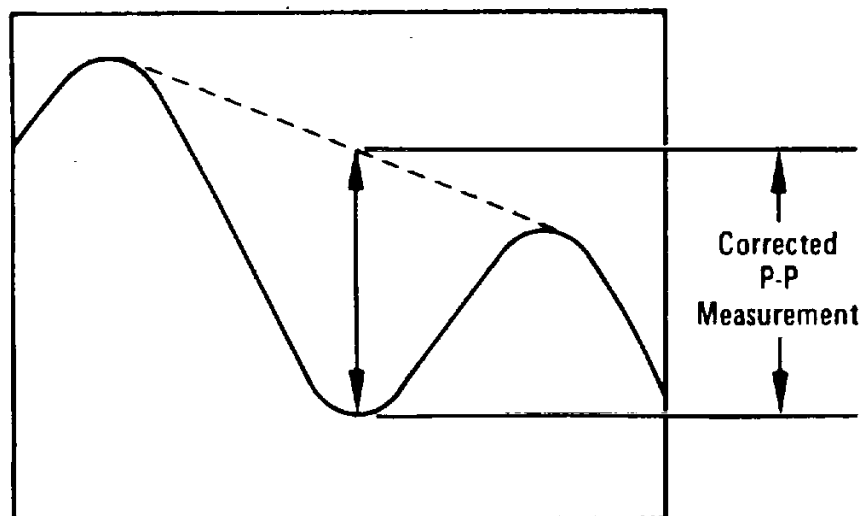
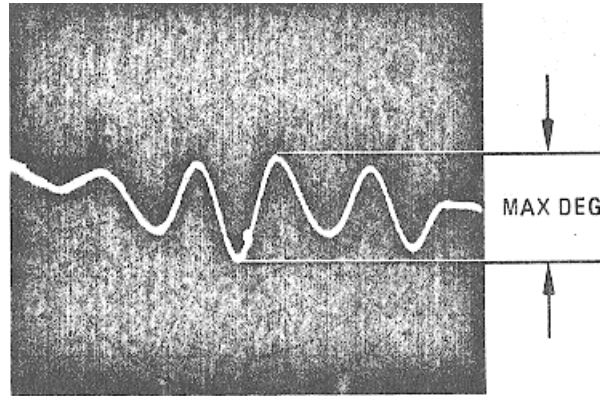

Figure 14. Slope Peak-To-Peak Measurement
Figure 15. TEST Port Open/Short Ratio Phase >2 MHz
If a peak-to-peak measurement is made in an area where there is some slope, a corrected reading can be obtained by connecting two adjacent upper peaks with a dotted line. Extend a vertical line up from the lower peak until it intersects the dotted line. This constructed vertical line is the averaged or corrected peak-to-peak measurement to be used (Figure 14). Avoid making peak-to-peak measurements at extreme slope changes.
- (5) Measure the maximum peak-to-peak variation on the display (Figure 15) and record the results (See Figure 14):